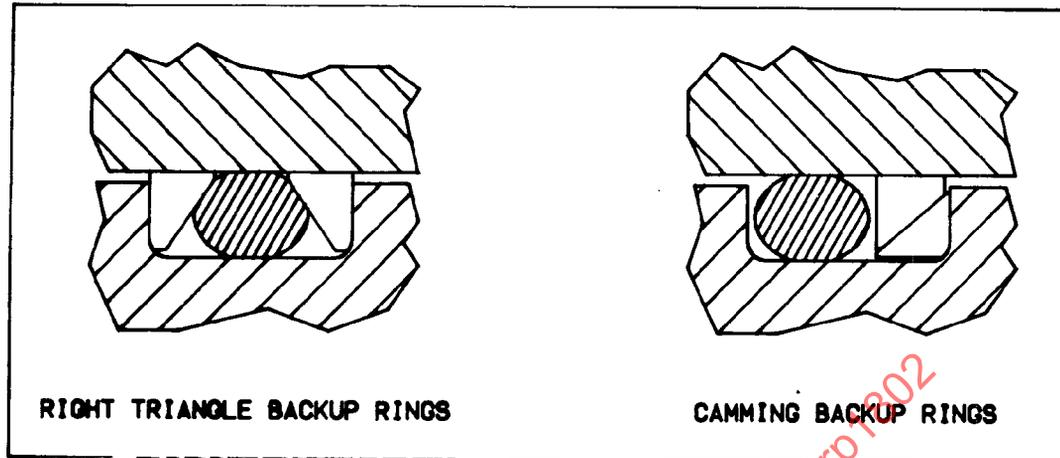

FIGURE 6
5.2 Special Types: In addition to the three basic types of backup rings, right triangle backup rings and camming backup rings are available for special purpose applications (Figure 6).